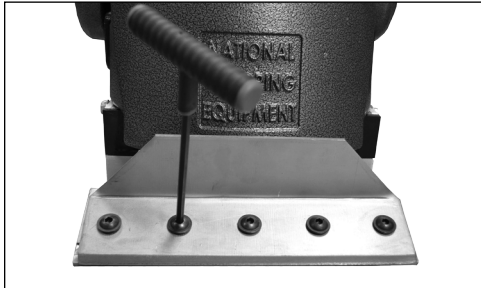

FIG. 7.1
2. Use the supplied extended "T" wrench or a 6 mm Hex wrench with at least a 3" (76 mm) extension to keep hand safely away from the blade. Loosen the five hex drive bolts (Figure 7.1), it is not necessary to remove them completely.